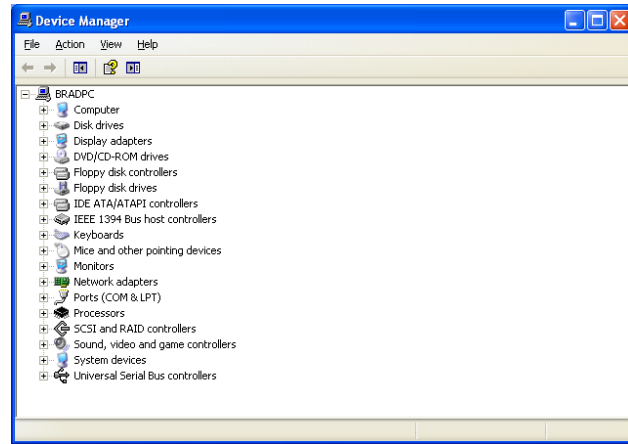

Figure 19 – XP Device Manager
- g. You will now be back at the Device Manager window (Figure 19). Close this window.